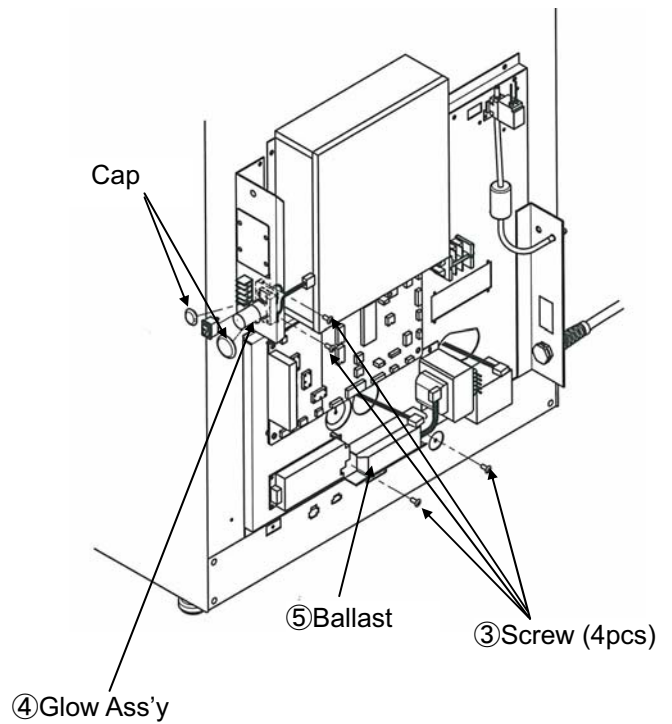

Fig. 7
8. Remote the 2 caps shown in Fig. 7.